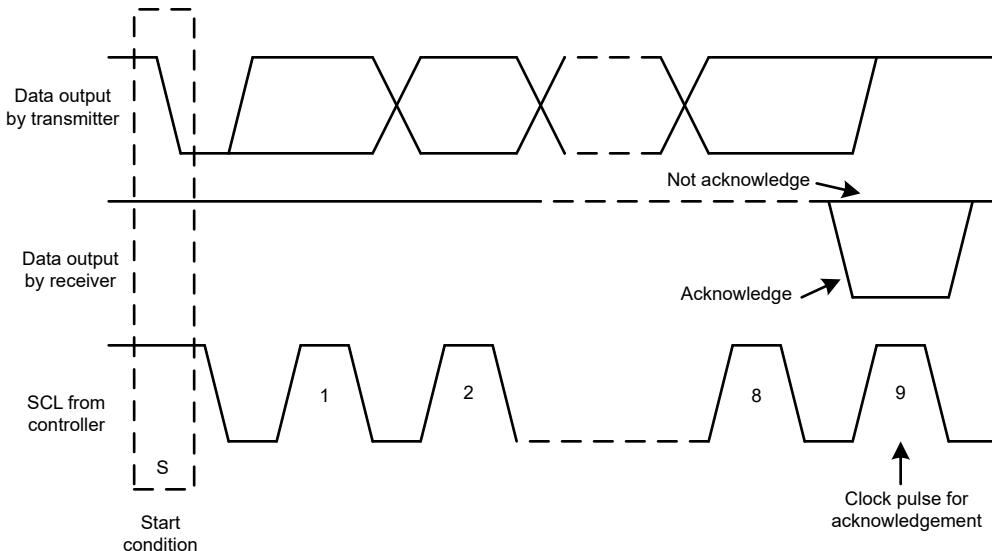
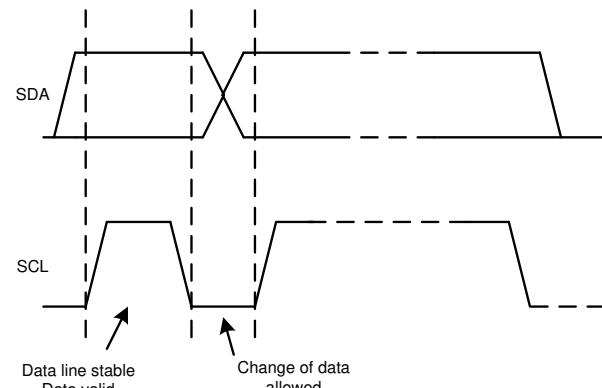

図 7-11. Acknowledge and Not Acknowledge on the I²C Bus
図 7-13. Bit Transfer on the I²C Bus
Other than specific timing signals, the I²C interface works with serial bytes. At the end of each byte, a ninth clock cycle generates and detects an acknowledge signal. An acknowledge is when the SDA line is pulled low during the high period of the ninth clock cycle. 図 7-11 depicts a not-acknowledge, when the SDA line is left high during the high period of the ninth clock cycle.
2. The controller then generates the SCL pulses, and transmits the 7-bit address and the read/write direction bit (R/W) on the SDA line. During all transmissions, the controller makes sure that data are valid. 図 7-13 shows that a valid data condition requires the SDA line to be stable during the entire high period of the clock pulse. All devices recognize the address sent by the controller and compare the address to the respective internal fixed address. Only the target device with a matching address generates an acknowledge by pulling the SDA line low during the entire high period of the 9th SCL cycle (see also 図 7-11). When the controller detects this acknowledge, the communication link with a target has been established.